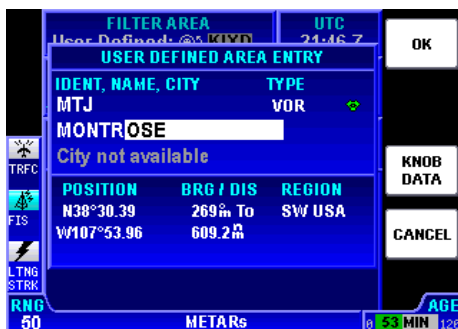

Figure 2-63
6. Press the **KNOB SCAN** Softkey and Figure 2-63 will be displayed.